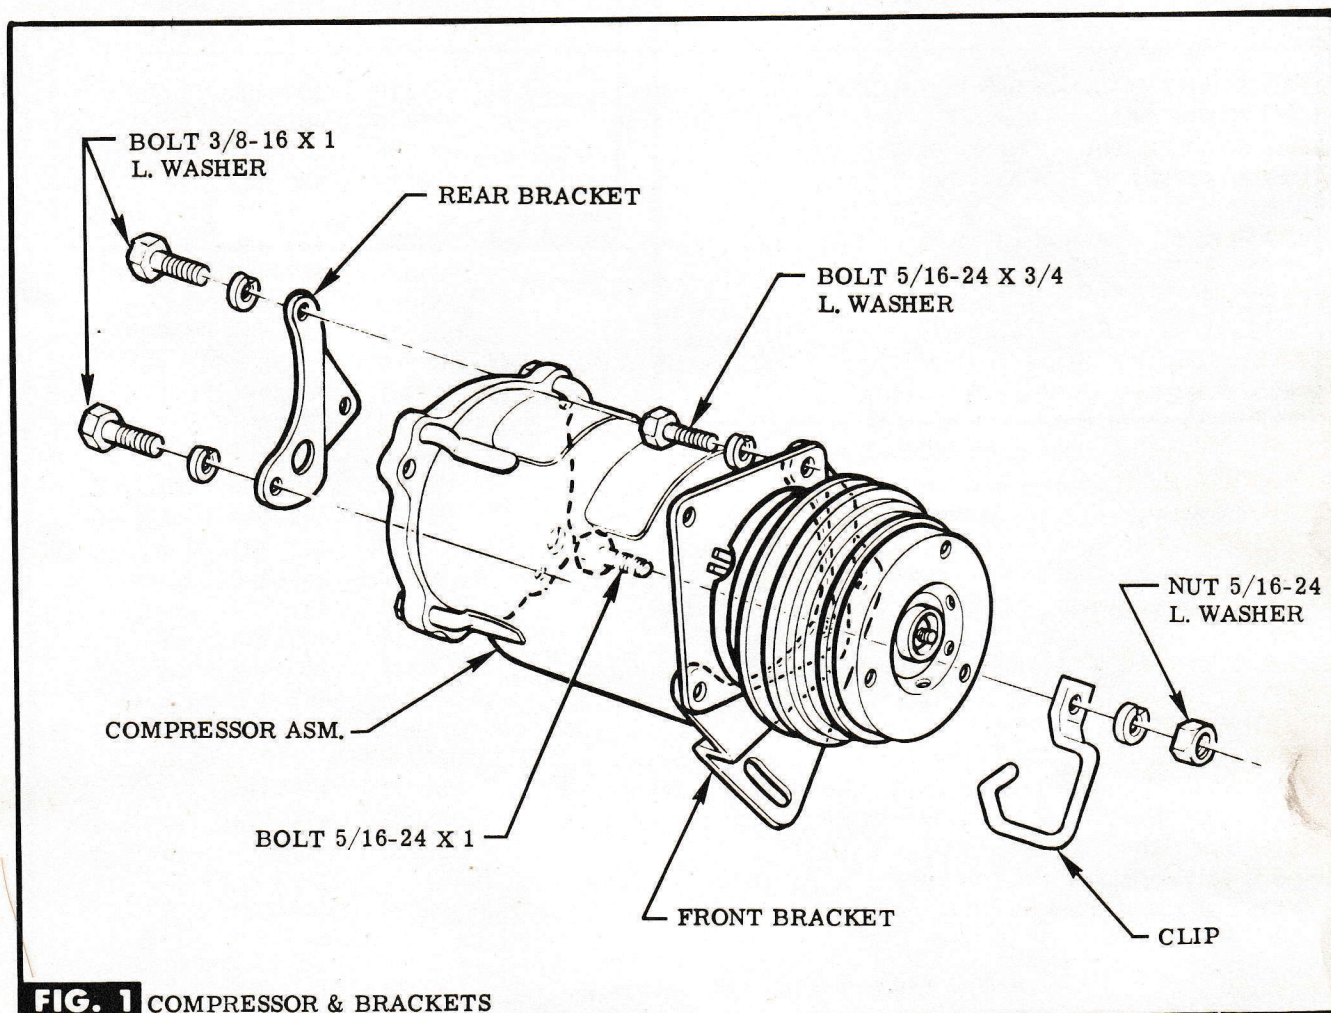

FIG. 1 COMPRESSOR & BRACKETS
STEP 4 LOOSELY ASSEMBLE REAR MOUNTING BRACKET TO COMPRESSOR WITH PROVIDED ATTACHING PARTS. SEE FIG. 1.